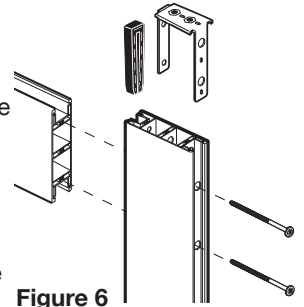

Figure 6
Place 2 of the 4" screws (Z) into the 2 holes in the outside of the Stile channel. Make sure they are fully inserted. Slide a reinforcement clip (D) into the channel and over the screws shafts. See Figure 6.